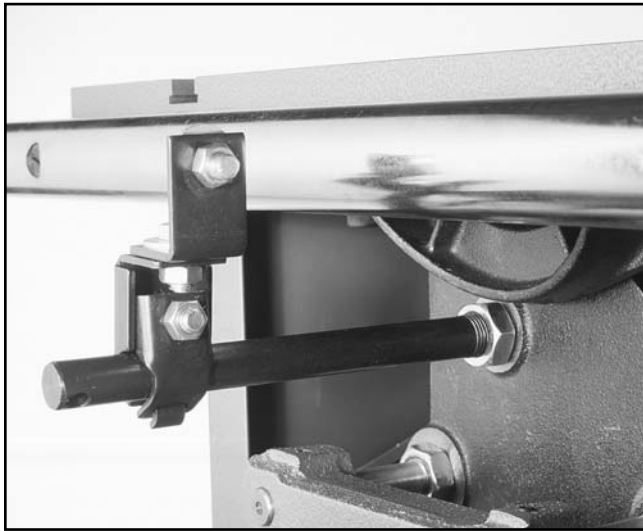

Figure 36. Installing blade guard.
2. Screw the threaded end of the support shaft into the hole in the back of the rear trunnion. The check nut on the shaft will be used to tighten the shaft in place as shown in **Figure 36**. Leave it loose for now.